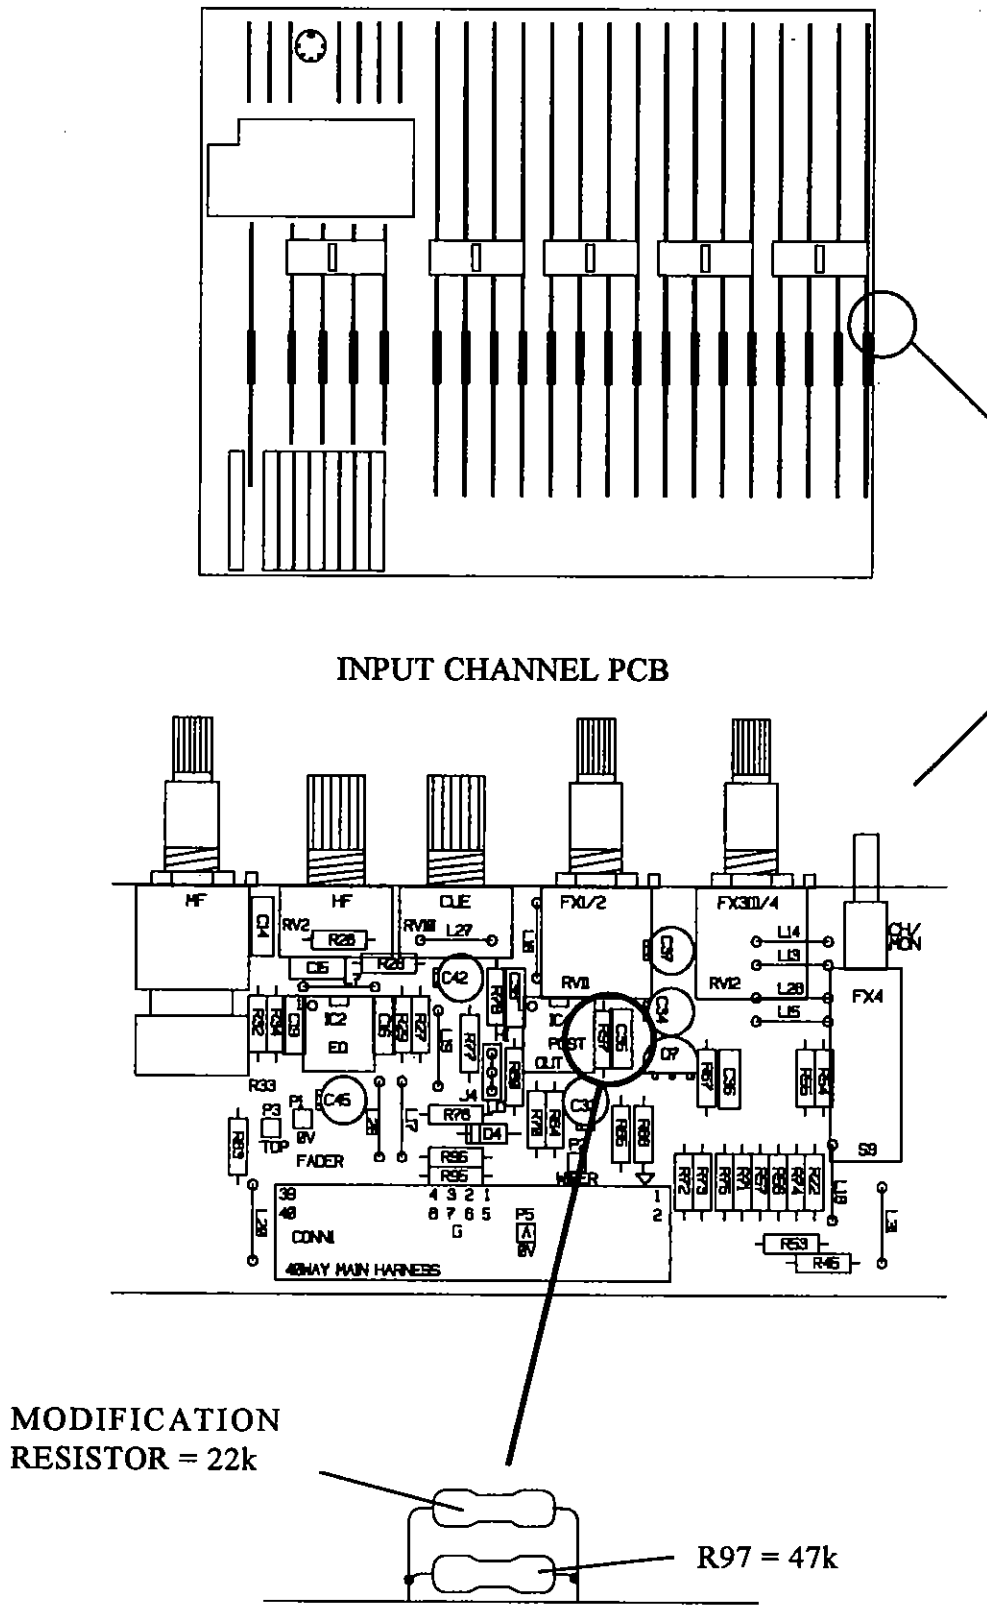

Fig. 5.
1. Locate the 47K resistor R97 on the Input Channel PCB, see Fig. 5. Solder a 22K resistor across R97, as shown, for every Input Channel PCB. Tin the resistor legs first and check your work to ensure good solder joints.